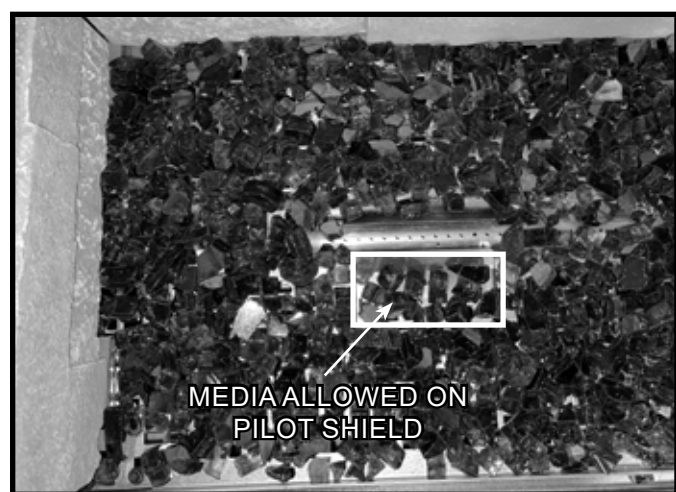

Figure 11.6 Media Placement Jig Removed
5. Place a few small pieces of media over the pilot shield as shown in Figure 11.6. **DO NOT** allow any media in the area between pilot shield and the rear media stop.